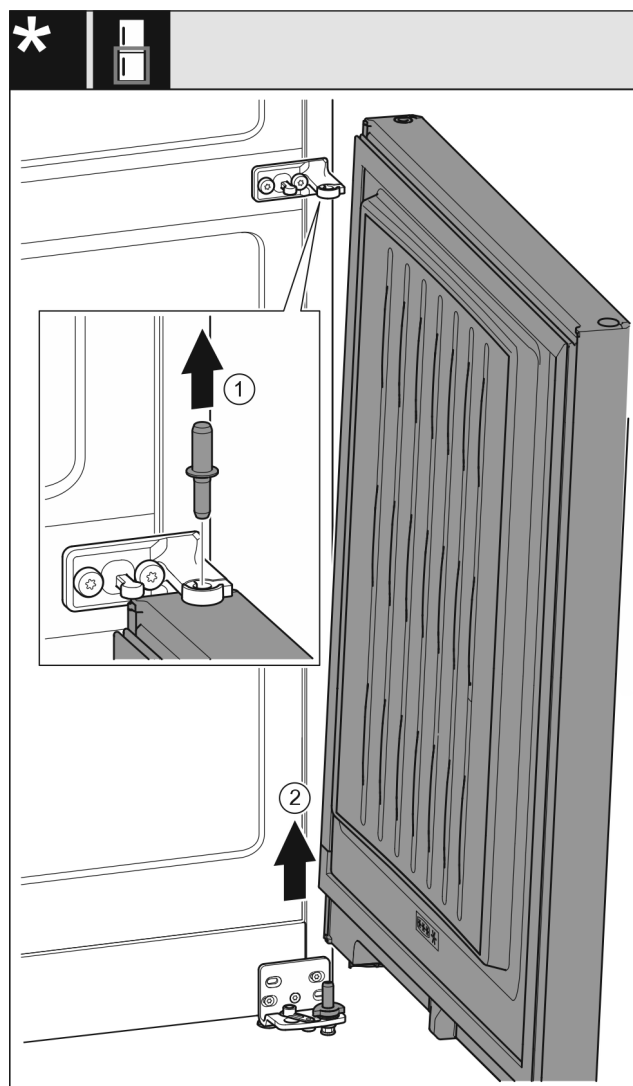

Fig. 9
- Pull out the bolt Fig. 9 (1) upwards.
- Swing out the door Fig. 9 (2), pull it upwards and set it aside.